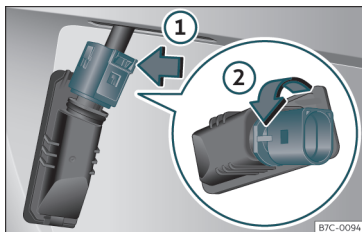

Fig. 96 Number plate light: detach the bulb holder.
3. Turn the connector lock » **Fig. 96** in the direction of arrow ① and pull on the connector.
4. Rotate the bulb holder in the direction of arrow ② and extract it with the bulb.
6. Insert the bulb holder in the number plate light and turn in the opposite direction of arrow ② until it stops.